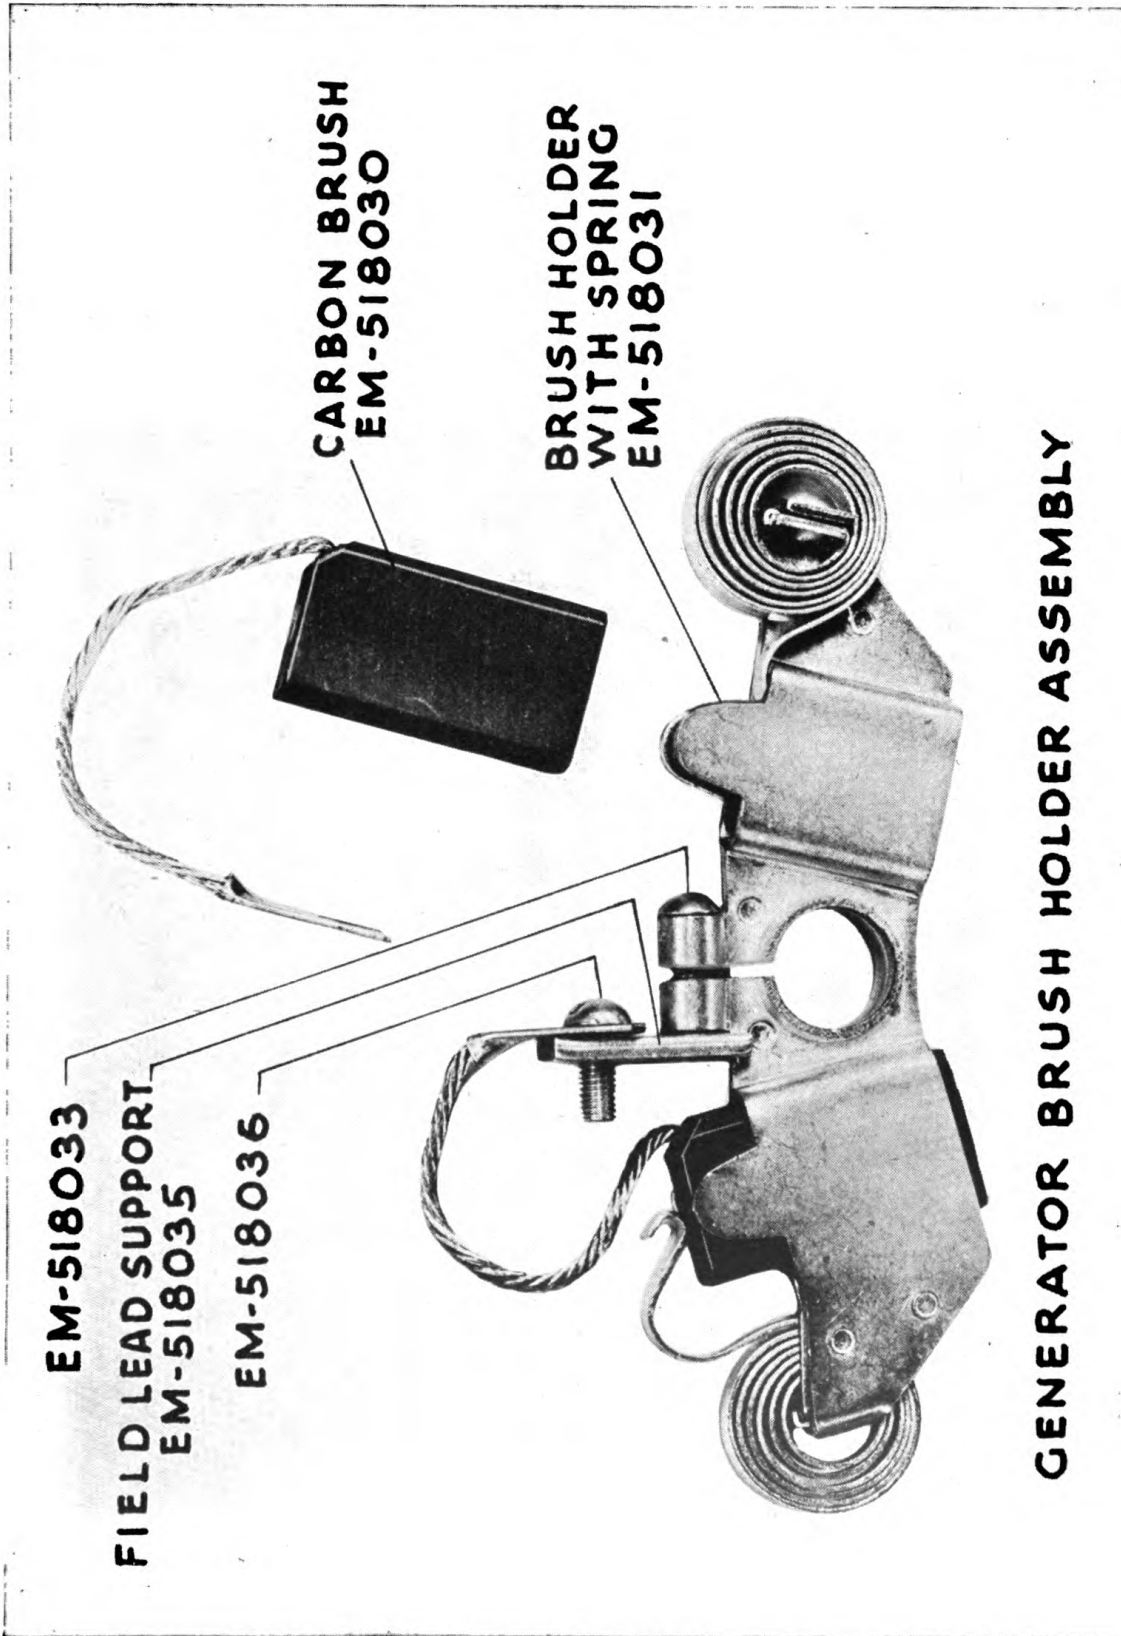

FIG. 10—Generator Brush Holder Assembly
- Figure 10 Generator brush holder assembly.